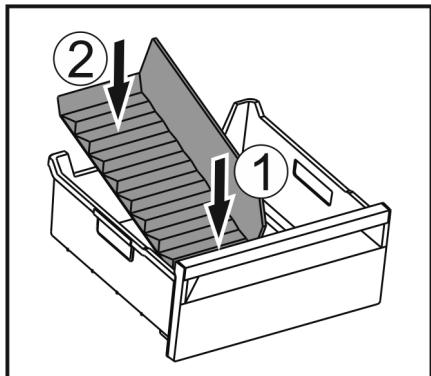

Fig. 113
- ▶ Insert the front part of the ice compartment divider. Fig. 113 (1)
- ▶ Lower the rear part of the ice compartment divider to the drawer bottom. Fig. 113 (2)